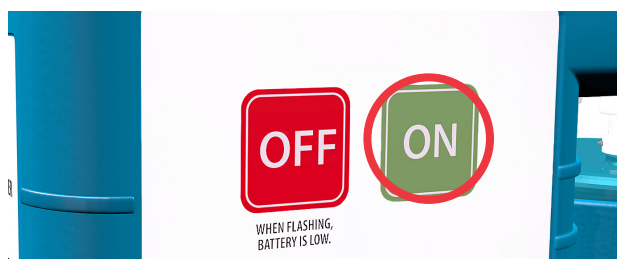

Figure 11
1. Press the ON Button. All lights show for 1 second during the power-on self-test. When finished, the ON Button stays green (**Figure 11**).